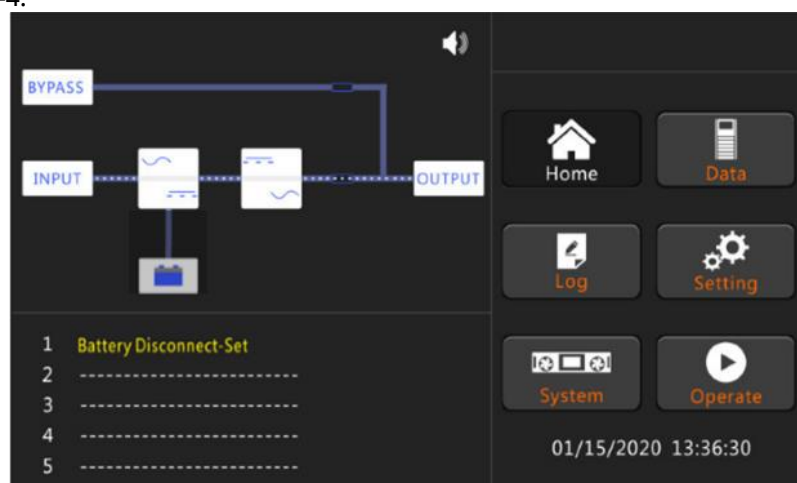

Figure.5.4 Normal mode
3. After about 30S, when the inverter is running normally, the UPS switches from the bypass to the inverter, the bypass indicator bar is off, and the load indicator bar flashes. As shown in Figure 5-4.